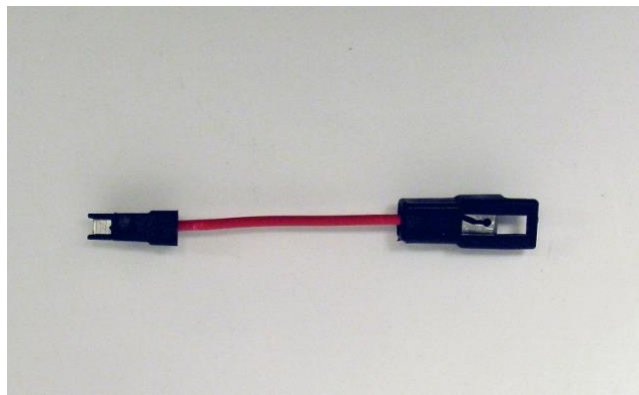

Figure 39 – 1979-82 Jumper Harness
38. For 1968-78 applications install the red wire with the black connector from the new harness into an open slot on the fuse block labeled “battery”. For the 1979-82 applications you will first need to plug in the provided jumper harness (Figure 39) into the black connector on the red wire from the new harness and then plug the jumper harness into the ATO style fuse block. Use an open slot labeled “battery”.